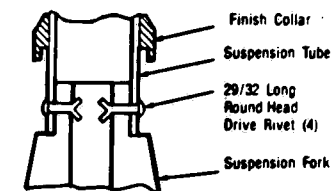

Figure 4-16. RIVETS PROPERLY INSTALLED.
6. Tap the rivet pins with a hammer until pins are flush with rivet heads. (See Figure 4-16)